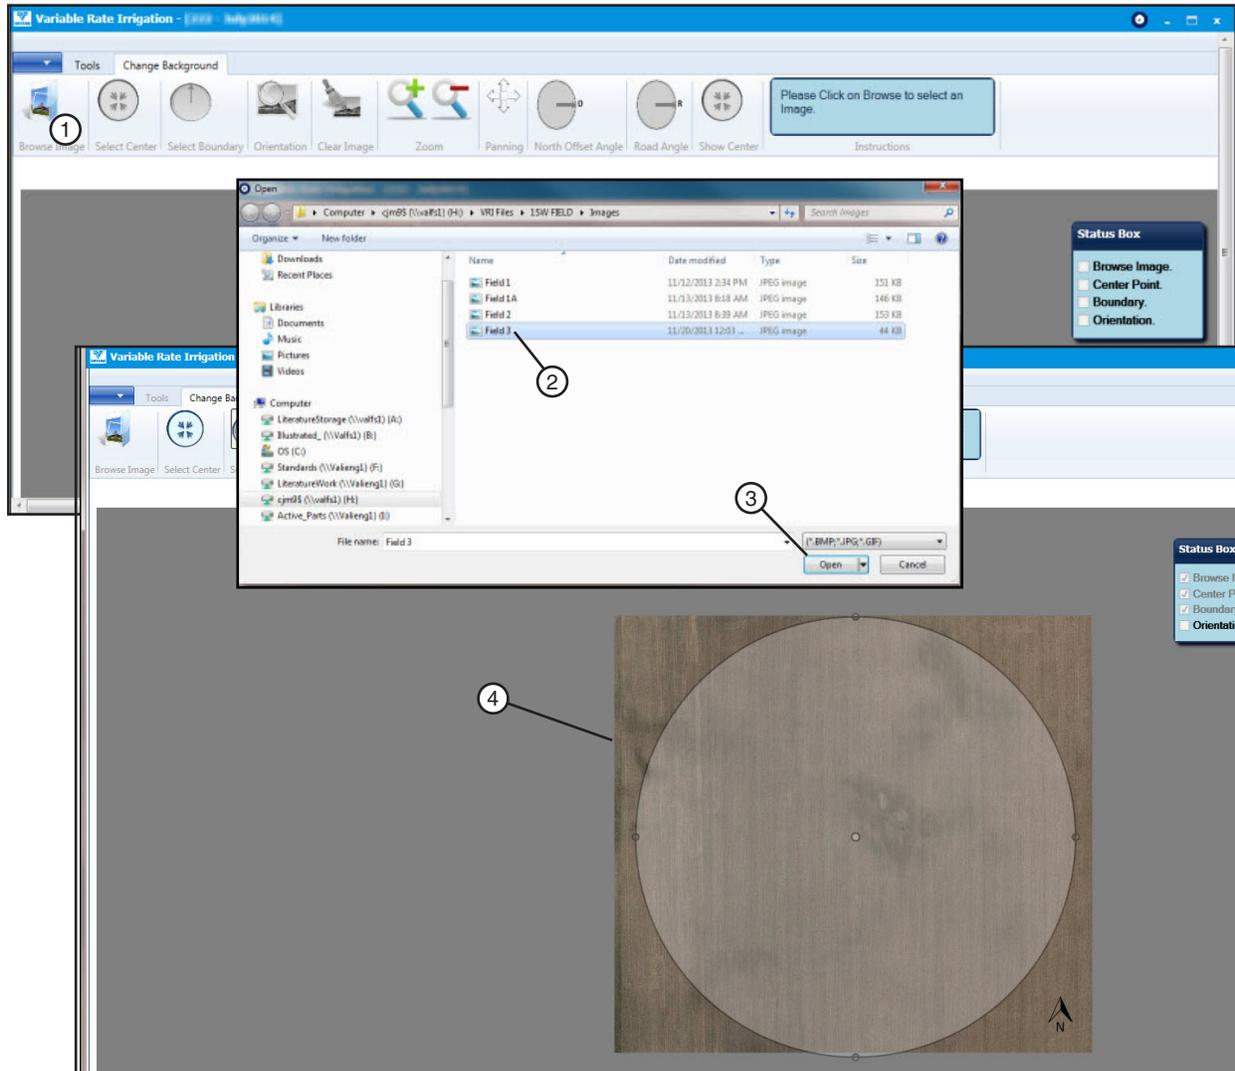

Figure 14-1 1. Browse Image button 2. Image Selection 3. Open 4. Background Image
2. Click the **Browse Image** button on the Tools screen, select the image of the field for which the prescription is being created, and click **Open**. (Refer to Figure 14-1.)
The image appears on the screen. (Also refer to Figure 14-1.)